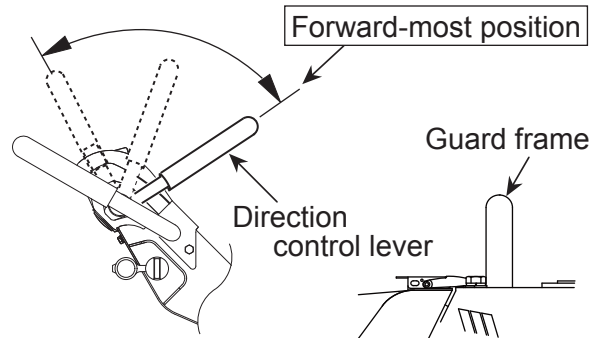

Figure 32. Direction Control Lever (Forward Position)
7. With the direction control lever at the forward-most position, secure the guard frame with a rope to immobilize (Figure 32).